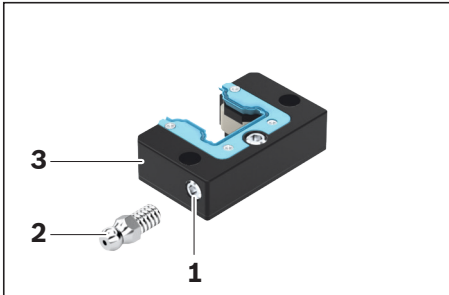
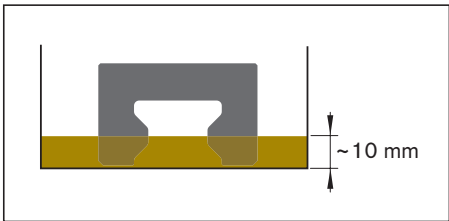

Figure 1
Figure 2
- ▶ Remove the set screw from the lube port (fig. 1, item 1) and keep for later use.
- ▶ Screw in lube nipple (2).
- ▶ Lie the front lube unit (3) down flat, fill with quantity of oil as per table 1, and leave it to lie for around 36 hours.
- ▶ For size 20 low profile: Put the front lube units in 10 mm of oil for approx. 36 hours (see fig. 2).
- ▶ The front lube unit size 20 low is not refillable via the lube connection (see figure 2).